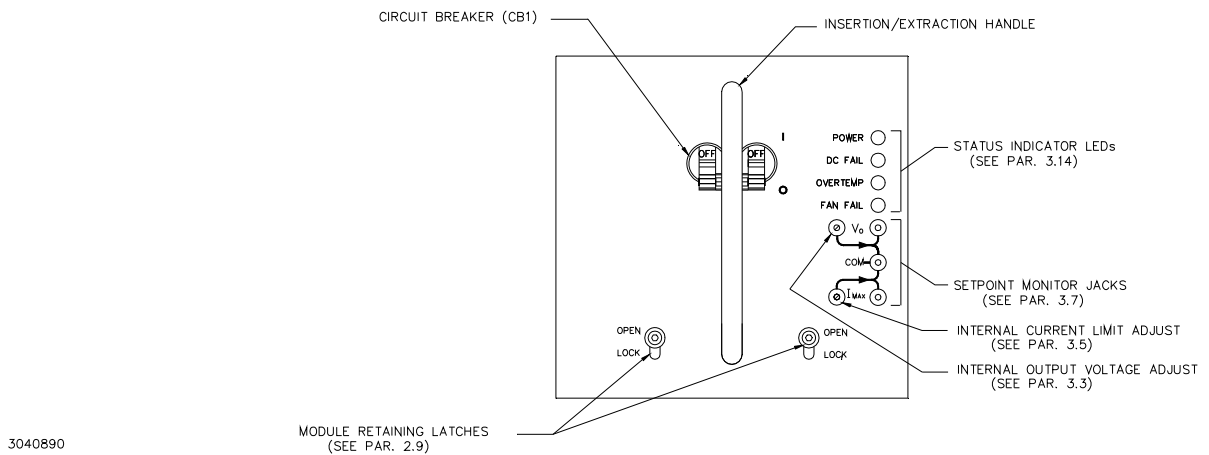

FIGURE 2-1. HSP SERIES FRONT PANEL CONTROLS AND INDICATORS
a) **Front Panel:** Refer to Figure 2-1.
A simple operational check after unpacking and before equipment installation is advisable to ascertain whether the power supply has suffered damage resulting from shipping. Refer to Figures 2-1, 2-2 and 2-3 for location of operating controls and electrical connections.
The following paragraphs outline the proper way to remove the HSP from the rack adapter and insert a replacement. Refer to Figures 2-1 and 2-3 for HSP component locations.
2. Release the two cap head screw retaining latches (see Figure 2-1) by loosening the cap head screw approximately 1/2 turn CCW (use 5/32" hex key) and slide to OPEN (up) position.
2. Verify that the retaining latches are locked in the OPEN (up) position. Figure 2-1 shows the latches in the OPEN position.